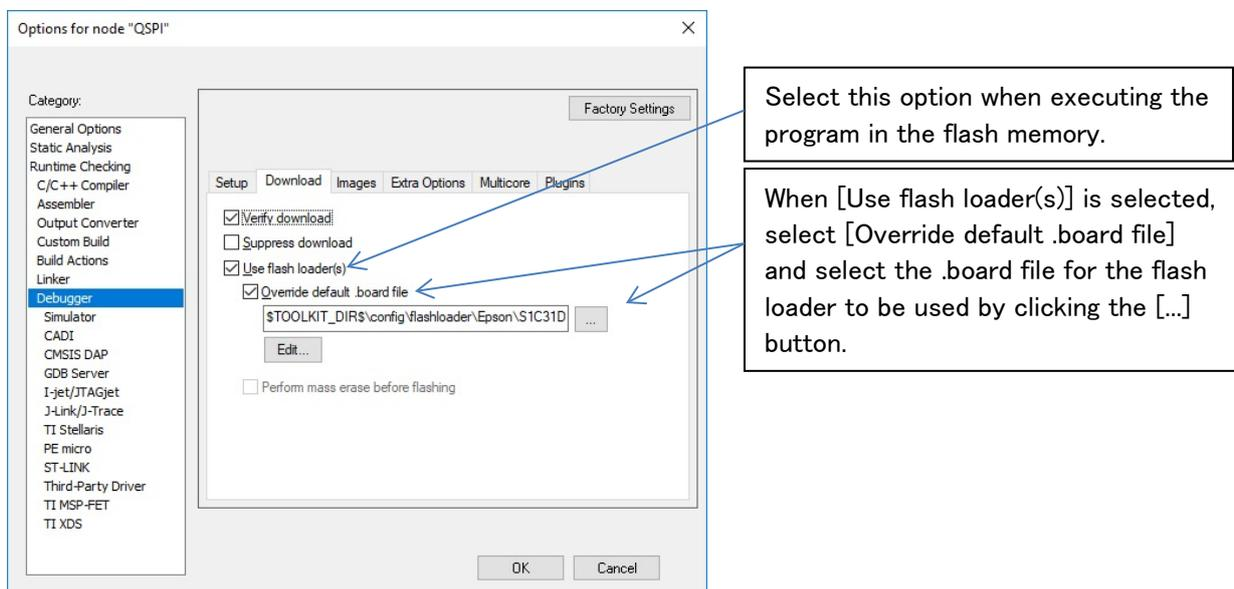

Figure 2.3.5.1 Flash Loader Setting
- (1) Select the [Project] > [Option] in the IAR EWARM menu.
- (2) Select the [Debugger] in the [Category] list on the [Options for node “{project}”] dialog (Figure 2.3.5.1).
- (3) Select the [Download] tab (Figure 2.3.5.1).
- (4) Disable the [Use flash loader(s)] checkbox (Figure 2.3.5.1).
- (4) Enable the [Use flash loader(s)] checkbox (Figure 2.3.5.1).
- (5) Enable the [Override default .board file] checkbox (Figure 2.3.5.1).
- (6) Click the [...] button and select “S1C31D5x\_int.board” as a board file (Figure 2.3.5.1).